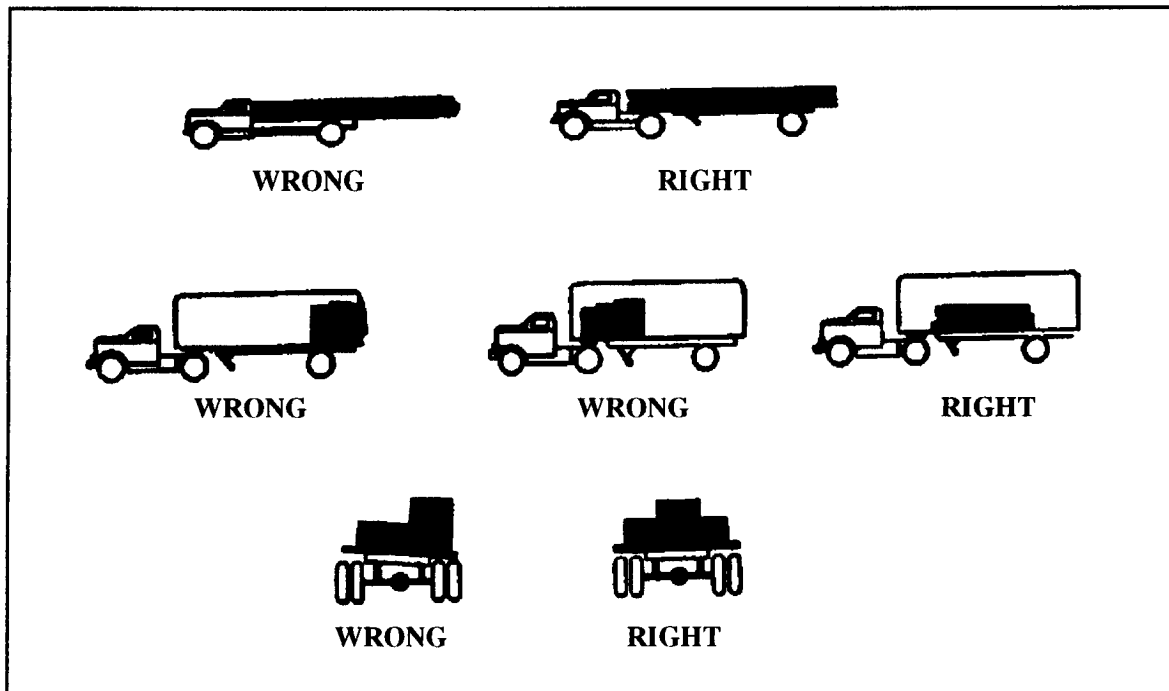

Figure 3-1. Right and wrong ways to load cargo
- ***Balance the weight.*** Poor weight balance can make vehicle handling unsafe. Too much weight on the steering axle can cause hard steering. Too much weight can also damage the steering axle and tires. Underloaded front axles can make the steering axle weight too light to steer safely. Too little weight on the driving axles can cause poor traction. This could cause the drive wheels to spin easily. During bad weather, the vehicle may be unable to keep moving. Heavy loads with a high center of gravity increases the chance of a rollover. On flatbed vehicles, heavy loads with a high center of gravity increases the chance of the load to shift to the side or fall off. Figure 3-1 shows examples of the right and wrong way to balance cargo weight.